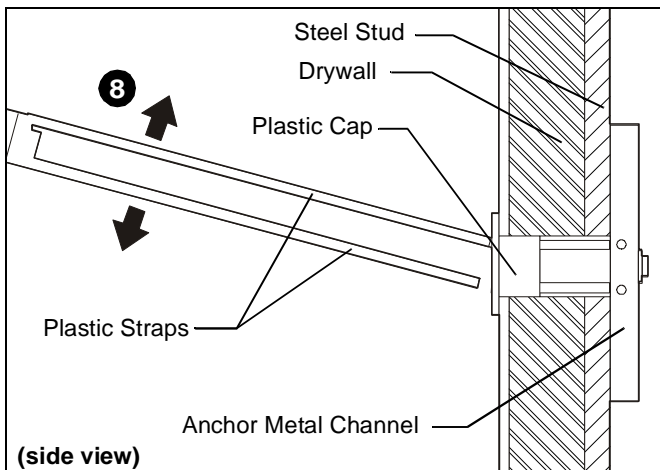

Figure 6
8. Snap off plastic straps on anchor at wall by pushing side to side, snapping off straps level with flange of plastic cap. (See Figure 6)